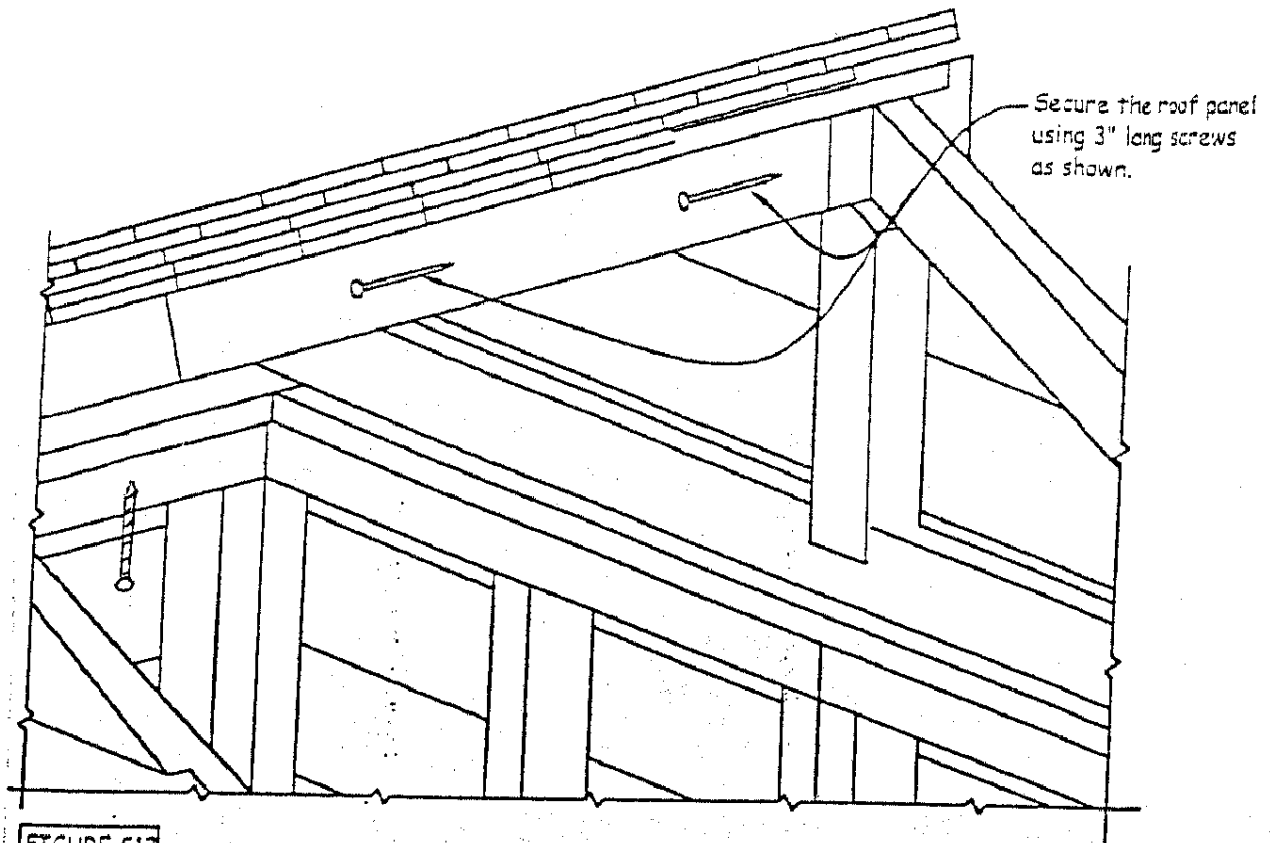

FIGURE S12
6. Screw the end rafters into gable rafter to secure roof panels using 3" screws. Screw through the top plate into the center roof rafters on each sidewall using 3" screws. (See figure S12).